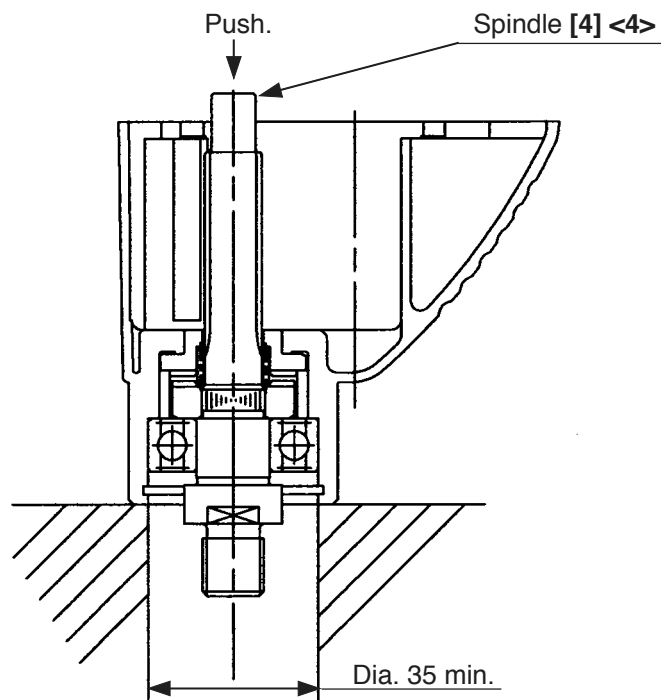

Fig. 11
Support the tip of the Gear Cover (A) Ass'y [25] <25> with a cylindrical jig of inside diameter 35 mm or more, and push the rear portion of the Spindle [4] <4> lightly. Then the spindle can be removed together with the Ball Bearing 6202DDCMPS2L [7] <7> and Spring (A) [9] <9>. (Fig. 11)